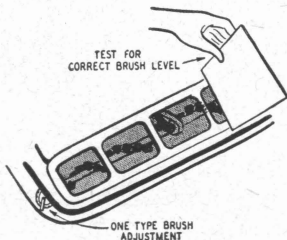

Fig. 33
**Remedy:** Hold machine with nozzle up, lay a ruler or piece of stiff cardboard over the nozzle. The bristles should not quite touch the ruler; a space of 1/32-inch is desirable. The adjustment is usually made by moving a pin, screw or lever at each end of the brush. Fig. 33.